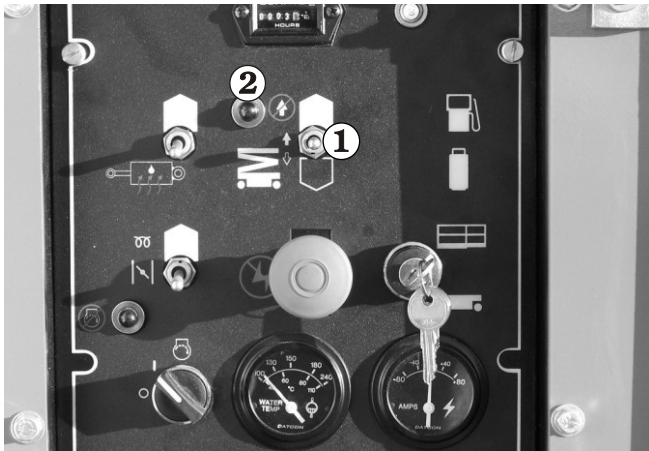

Figure 8.9
2. To raise the platform, press and hold the Platform Lift/Lower switch **1** up (see Figure 8.9).
3. To lower the platform, press and hold the Platform Lift/Lower switch **1** down (see Figure 8.9).